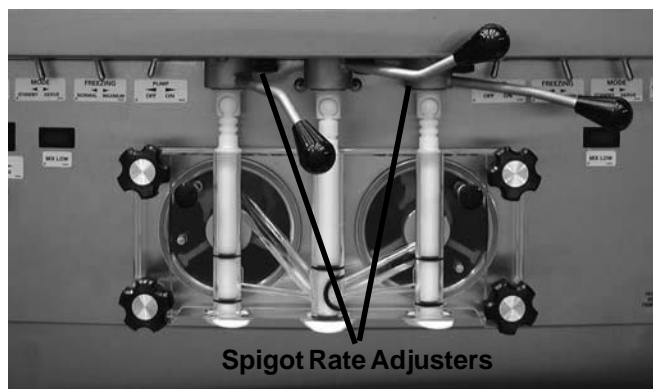

Figure 27. Dispensing Product
8. Reassemble both hose assemblies per the diagram located on the inside of the cab door. Reconnect assemblies to the pump and discharge hose, using the clamps. (See Figure 27 or refer to Section 2.5 Mix Pump).
- C. On air compressor side of pump, locate the long/slender piston rocking arm. The rocking arm downward travel is limited by a stationary cam. On the face of the cam there is an overrun setting indicator plate numbered 3 thru 8 and an adjustment knob. Figure 27.